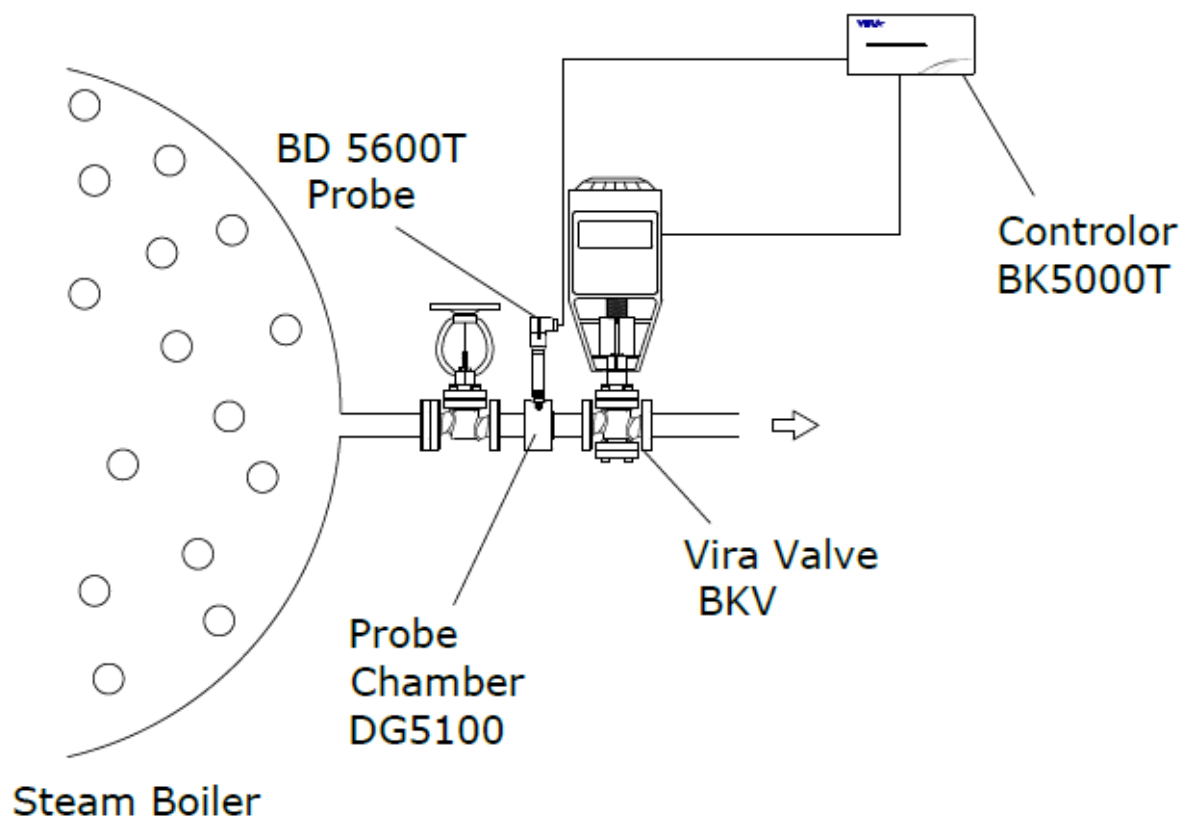

Figure 8 Vertical installation of BD 5600-T Conductivity Probe
Remove the screw (1) on the cable connector and remove the cover (2) shown in Figure 8. Make the cable connections between BK 5000T and BD 5400T cable connector with 5x1 mm² screened cable like in Figure 9.